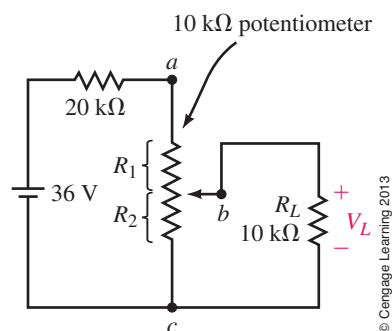

FIGURE 7-69
27. Refer to the circuit of Figure 7-69: